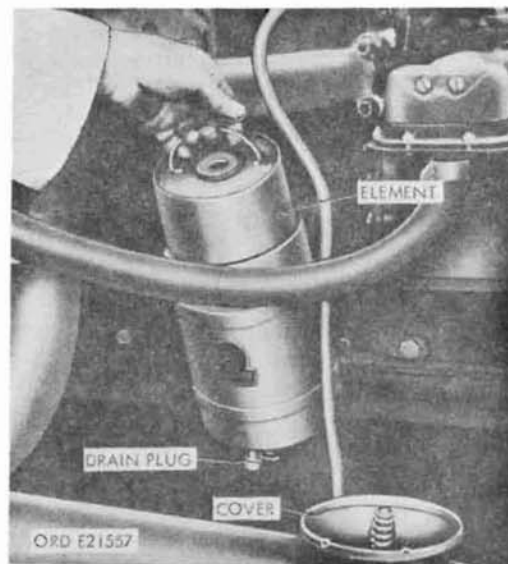

Figure 89. Removing oil filter element
a. Oil Filter Element (Fig. 89).
- (1) Remove the drain plug at bottom of the filter and drain the filter of oil. Remove the screw from center of the cover, lift off the cover, and remove the cover spring from the center of the filter element. Discard the cover gasket. Lift the element from the filter body and discard.
- (2) Clean the inside of the filter cover and the body with dry-cleaning solvent or mineral spirits paint thinner and install a new filter element.
- (3) Install the drain plug. Fill the filter with 2 quarts of seasonal engine oil. Place the spring in the top of the filter element and install the cover with a new cover gasket. Secure the cover with the cover screw.
- (4) Start the engine and run it until normal operating temperature (160° to 180° F.)